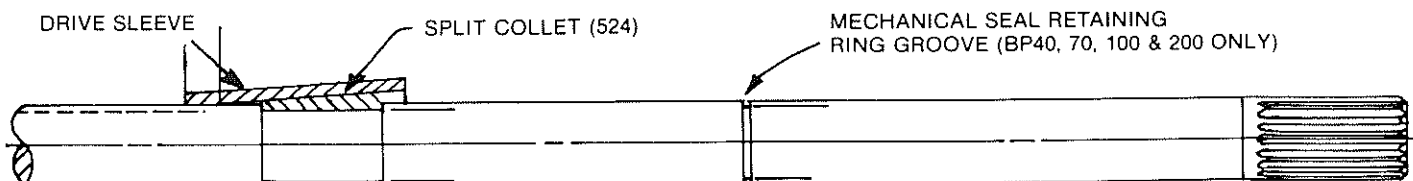

Figure 2
- c. Thread the bearing locknut (136) on the stub shaft (380) and tighten firmly.
- d. Place wave washer (524) in bottom of bearing frame (228A).
- f. Install the bearing end cover (109A) and gasket (360) and tighten the bearing cap bolts (370N) evenly. Insure that the mark "TOP" in the bearing cap is *up*.
- g. Replace pump coupling hub (233) and key (400).
1. Bolt seal housing (159) to bearing frame assembly.
2. Install O-rings (412L) on stationary seat mount (158). Lubricate O-rings well, and press seal seat mount into seal housing.
3. Install O-ring on stationary seat of mechanical seal (383B). Lubricate O-ring well and press stationary seat into stationary seat mount (158).
4. To install the drive collar (522) and split collet (524), slide the drive collar (522) over the shaft, past the long groove for the split collet (524), with the narrow end away from the splined end of the shaft. Spread the split collet (524) with a suitable tool, slide it on to the shaft with the narrow end away from the splined end of the shaft. Seat the split collet (524) into the long groove. Push the drive collar (522) over the split collet (524) and using a piece of pipe sized to seat against the narrow end of the drive collar (522), drive the drive collar (522) with a hammer over the split collet (524) until movement of the drive collar
(522) stops. The split collet (524) must still be in the groove butted against the edge closest to the splined end of the shaft. If the drive collar (522) split collet (524) are not positioned and seated properly as shown in figure 2, damage to the pump can occur when in operation.
5. Install mechanical seal retaining ring (361D) on shaft (122) in groove near splined end. On BP20 pumps only, this ring (361D) is not required as shaft has a retaining stepped shoulder.
6. Slide rotary unit of mechanical seal (383A) over splined end of pump shaft (122) and against retaining ring (361D). Use care to avoid cutting rubber bellows on spline teeth. On BP20 pumps, the mechanical seal shoulders against the step in shaft.
7. With bearing frame assembly in the vertical position, bolt casing adapter (108) to seal housing (159). Install O-ring (421K).
8. Slide splined end of pump shaft (122) into splined insert of stub shaft (380).
9. Install impeller key (178) in shaft (122).
10. Install back washer (546) on all impellers.
11. Install the suction diffuser (151) on the casing adapter (108). Be sure suction diffuser and casing adapter fits are clean and that the diffuser is free to turn in the casing adapter fit.